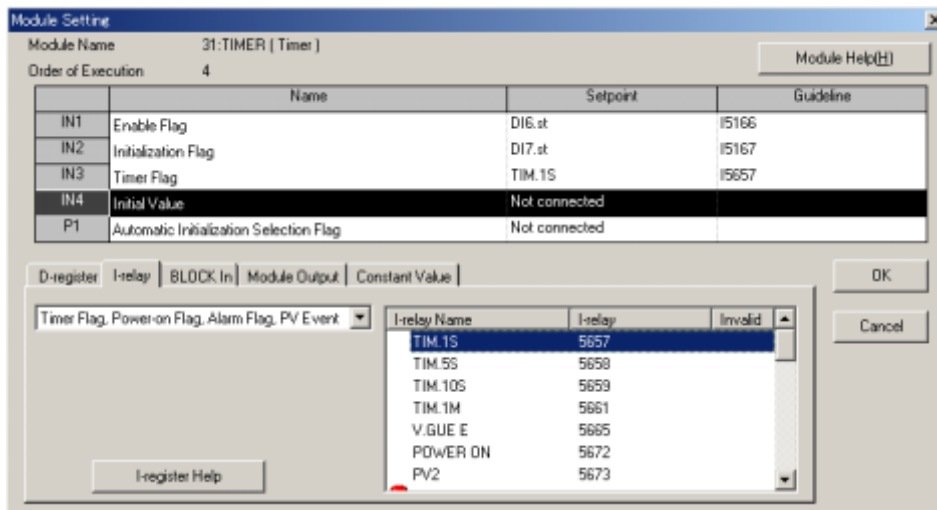

Figure 12.5.9 Configuration of the <IN3> Input
- (9) The <IN3> module input is waiting for the data setting.
- (10) Click the <I-relay> index.
- (11) Click <Timer flag, power-on flag, alarm flag> in the drop-down list box.
- (12) Double-click <TIM.1S> in the list box. The <TIM.1S (Setpoint column)> and <I5657 (Guideline column)> options appear in the <IN3> row. (Figure 12.5.9)